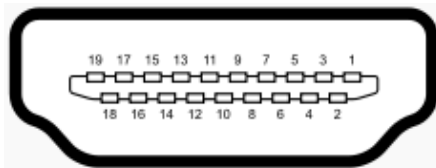

Figure 3-33: External HDMI Connector Location
- CN Location:** See **Figure 3-33**